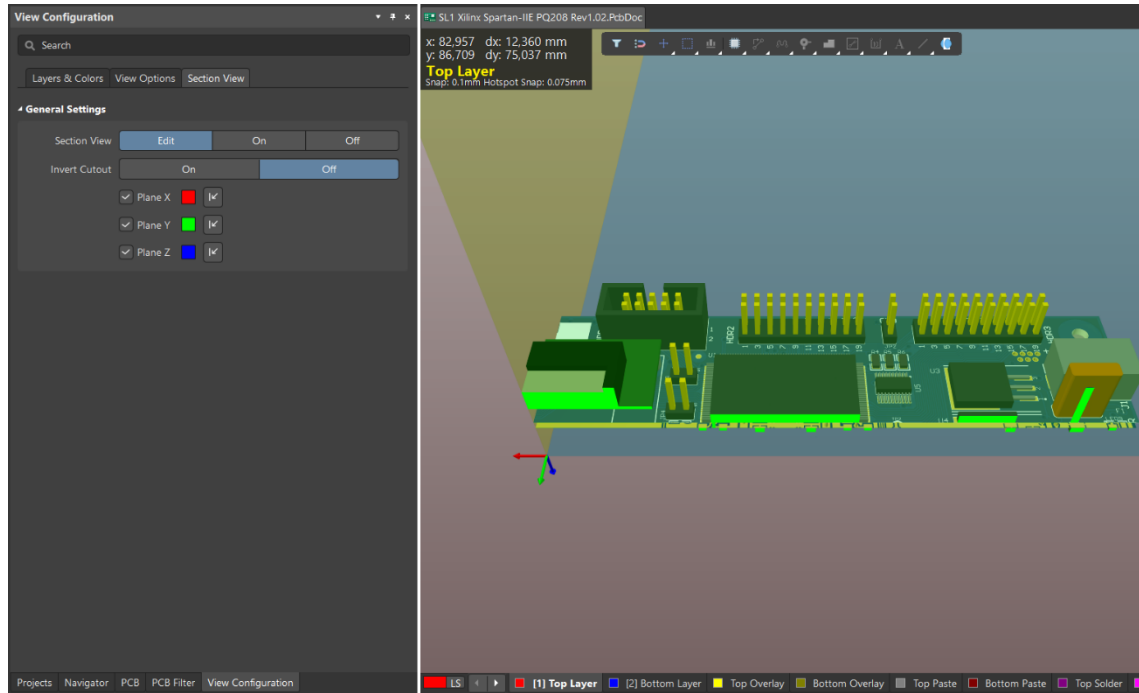

Figure 13. Section View
38. Select the *View Options* tab as shown in Figure 13 below.